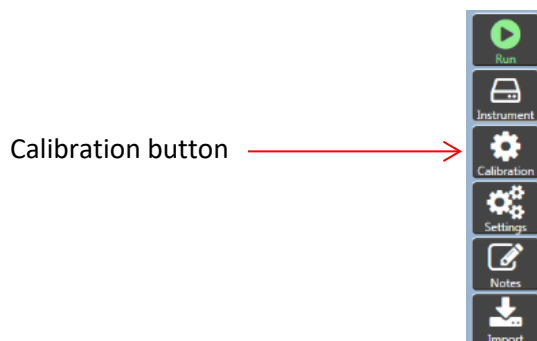

Figure 43: Sidebar Column on TESC Software
1. Click **Calibration** from the TESC software sidebar column. Refer to Figure 43.